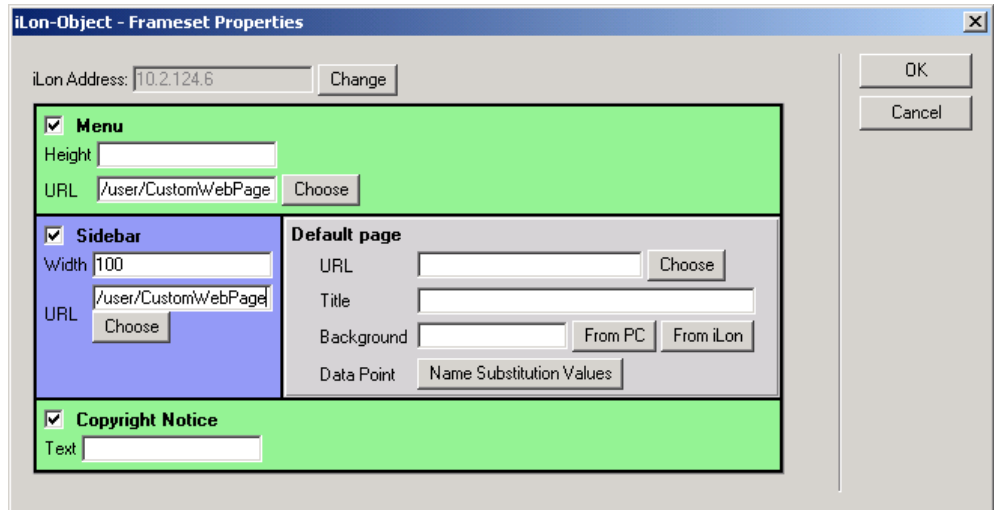

Figure 13.53 Frameset Properties Dialog
3. Click **Edit Page** to begin editing the **Start.htm** page. Then, select the Frameset Properties object, and click **Properties**. This opens the dialog shown in Figure 13.53.